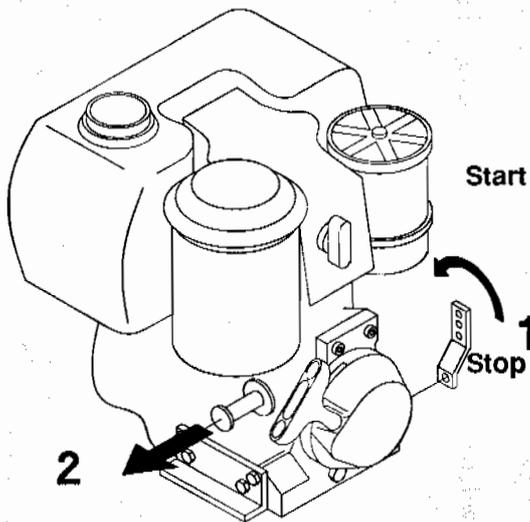
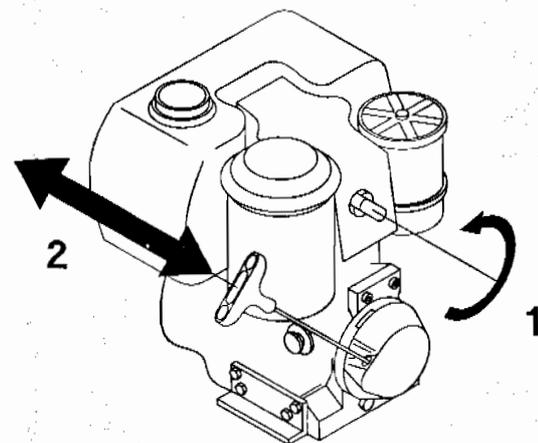
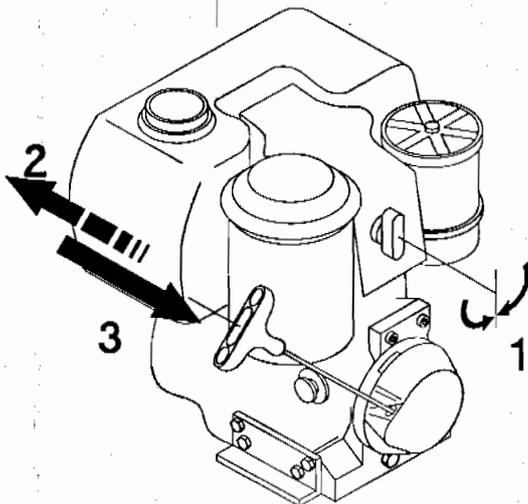

Fig. 1
Fig. 2
Fig. 3
The vibration required for compaction is produced by the exciter (5) which is firmly joined to the lower mass (4). This exciter (5) is designed as a central vibrator with aligned vibrations. Such a principle permits the direction of vibration to be changed by turning the eccentric weights (13). In this way an infinitely variable transition between vibration in forward motion (Fig. 1), at standstill (Fig. 2) and in reverse motion (Fig. 3) is possible.
1. Move speed lever into "Start" direction and place in central position (Fig. 1, item 1).
- pull the starting knob (Fig. 1, item 2).
- "turn" the engine "free": turn the decompression lever counterclockwise as far as it will (Fig. 2, item 1) go = permanent decompression; pull out the starting cable a few times and let it slowly roll up (Fig. 2, item 2) again. The injection noise of the injection nozzle must be audible.
- pull the starting knob (Fig. 1, item 2)
- turn the engine free 5 - 10 times (Fig. 2).
- move decompression lever into vertical position = compression (Fig. 3, item 1)
- pull the starting cable slowly until the compression resistance can be felt and then from this position (Fig. 3, item 2):
- let the starting cable roll up again (Fig. 3, item 3)!